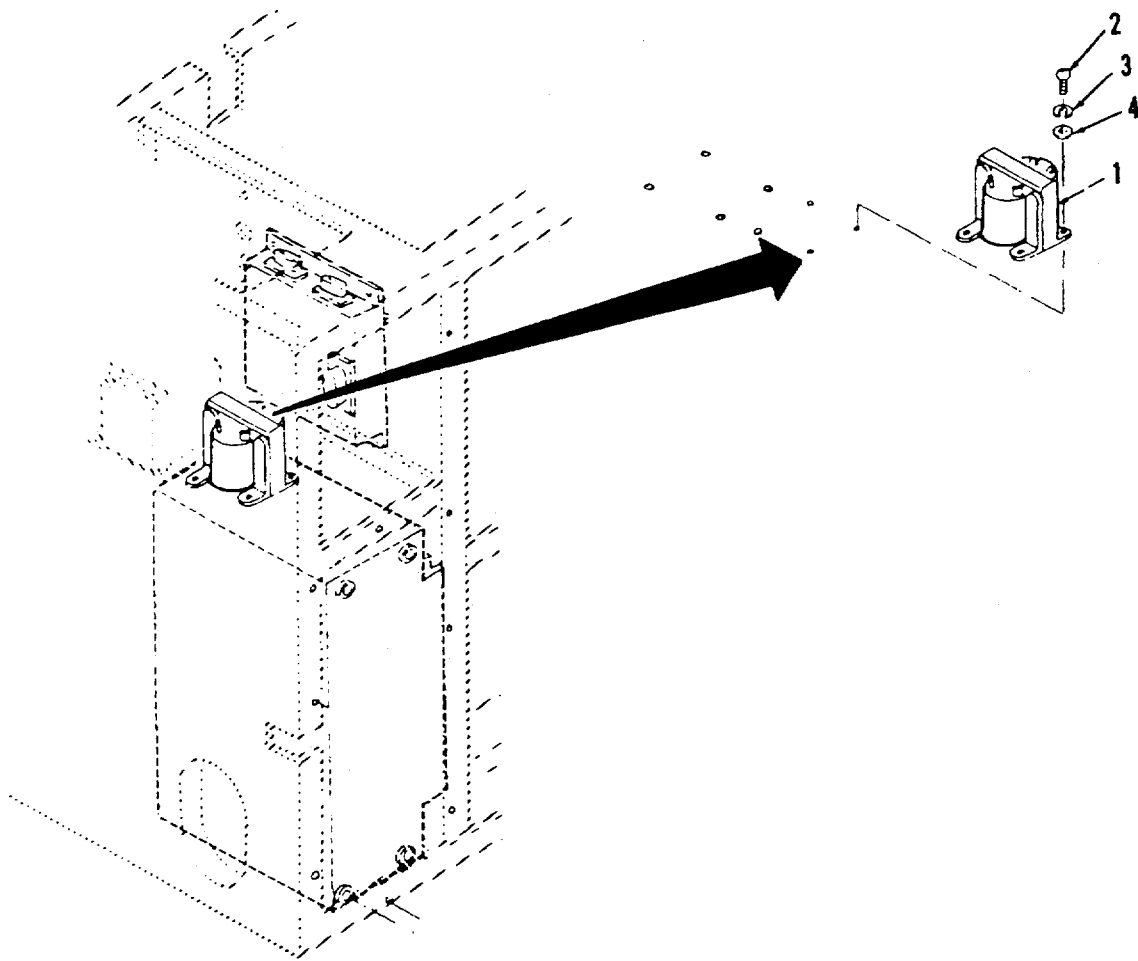

Figure 3-27. Transformer.
- a. **Removal.** (Refer to Figure 3-27).